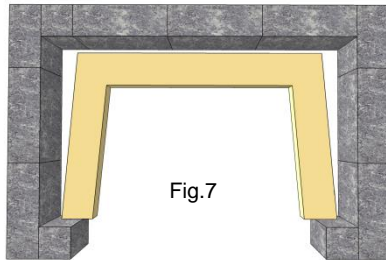

Fig.7
**Important:** Do not adhere fire brick to Brussels Dimensional Stone. **Leave a 1" gap between Brussels Dimensional Stone and the firebrick.** Tapering the walls (Fig.7) will require cutting of the fire brick but provides optimal radiation of heat.